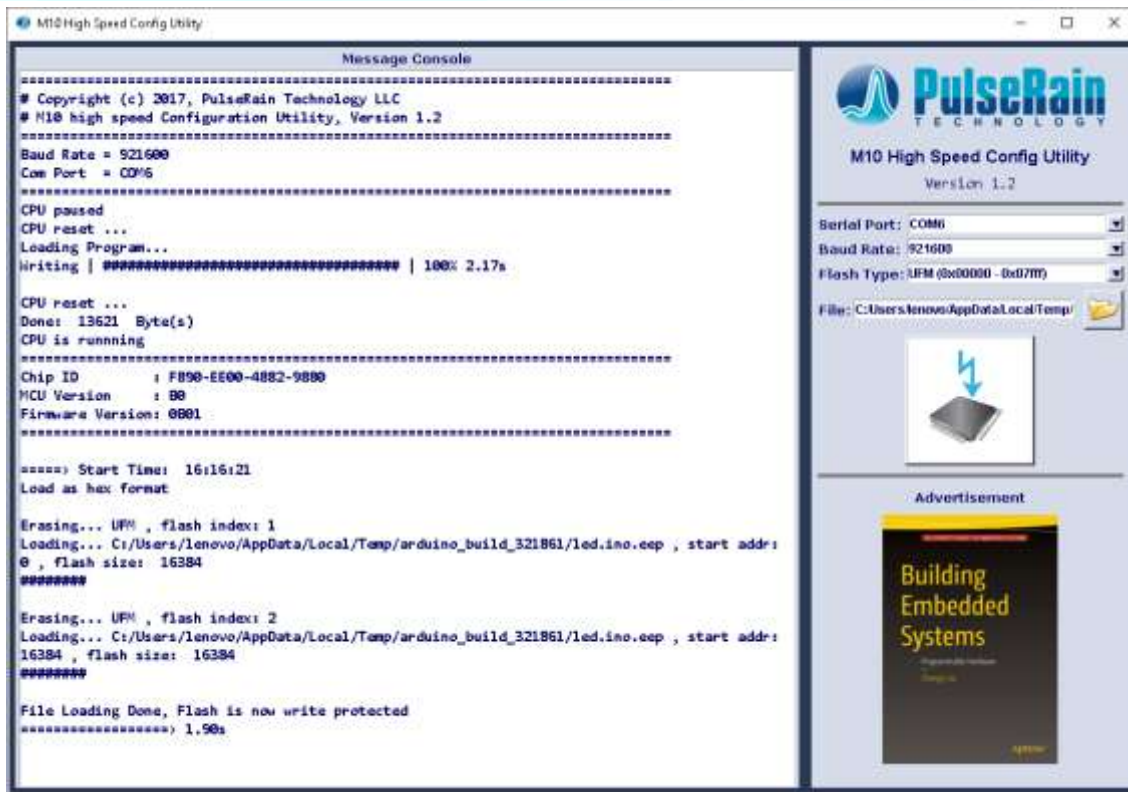

Figure 2-12 M10 High Speed Config Utility
- 5) Click the big square button on the right-hand side (with the picture of lightning strike). If everything is done right, you will see a message like "**File Loading Done, Flash is now write protected.**" at the end of flash programming, as illustrated in Figure 2-12.